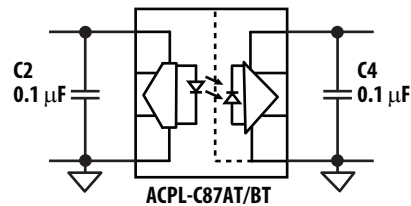

Fig 29. Bypass Capacitors C2, C4
0.1 μF bypass capacitor must be connected as near as possible between V_{DD1} to $GND1$ and V_{DD2} to $GND2$ (Figure 29).